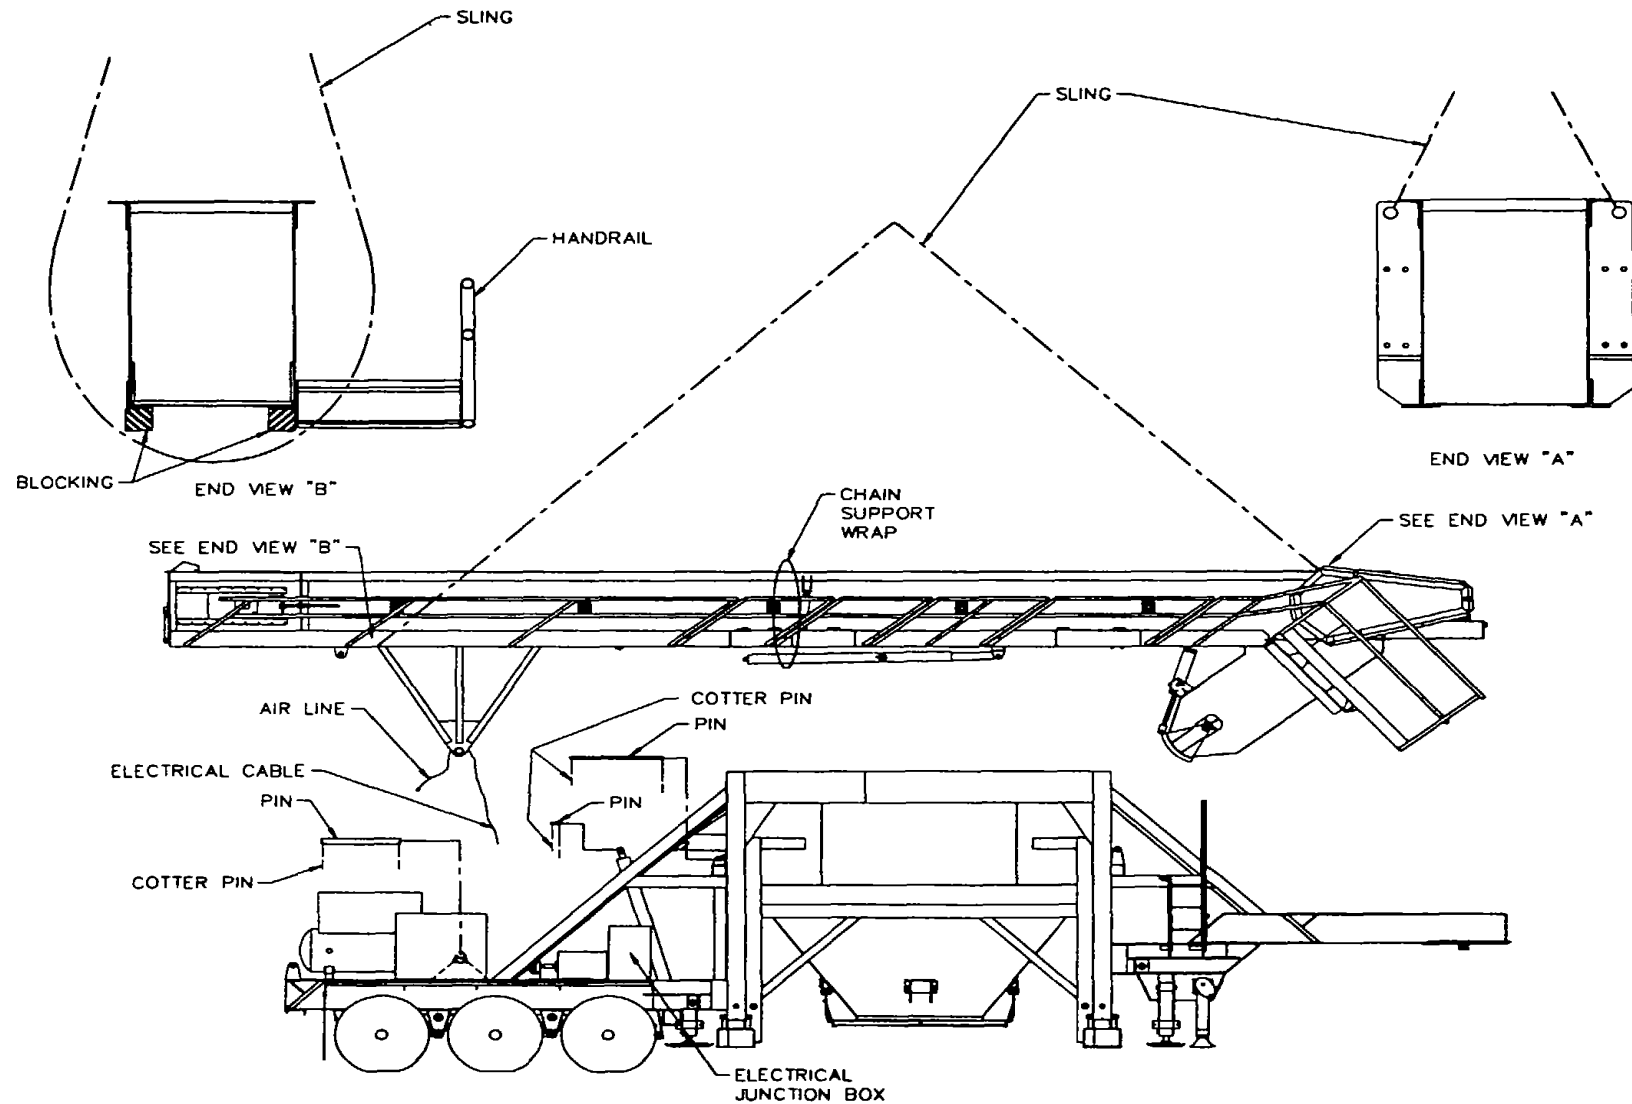

Figure 3-13. Slat Conveyor Slinging
7. The conveyor is lifted with two slings and a crane. See Figure 3-13. Hook up the slings using corner blocks that will not damage the conveyor.
25. Using slings and a crane, lift the slat conveyor into position on the chassis. See Figure 3-13.